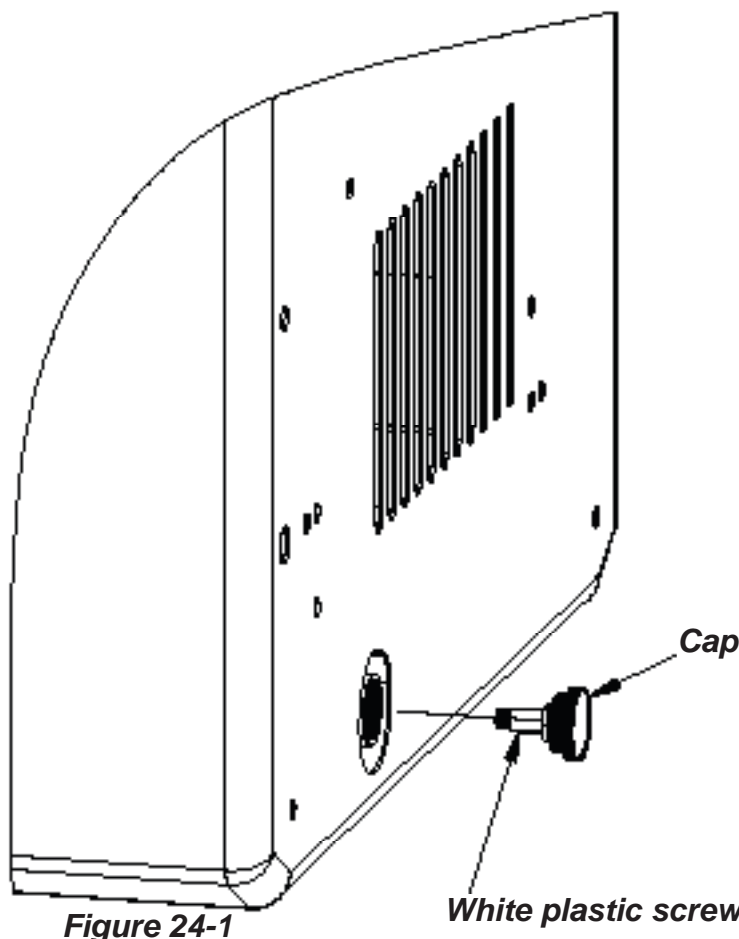

Figure 24-1
3. Remove the cap by hand from the regulator and now the white plastic screw is in the NG position (See Figure 24-1).